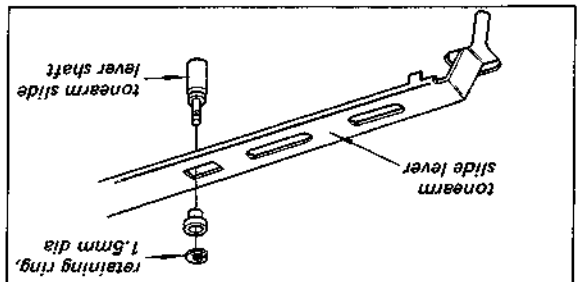

Fig. 2-5. Tonarm slide lever removal (1)
4. Remove the retaining ring as shown in Fig. 2-5.